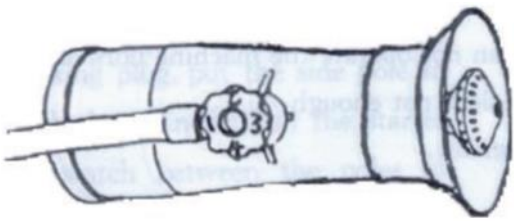

Fig. 9
(1)Misting.Loosen the pressing lid,regulate the length of the nozzle opening to meet the different requirments of misting. Turn the regulating valve to change the amount of misting.See Fig.9.